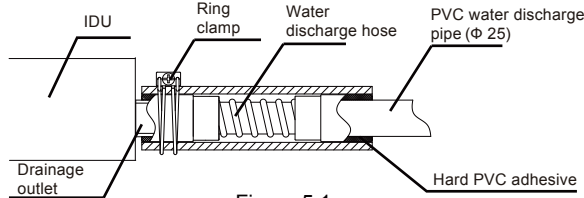

Figure 5.1
3. Use the insulation casing for water discharge piping (accessory) to bundle the water suction and discharge pipes of the indoor unit (especially the indoor portion), and use the tie for the water discharge piping (accessory) to bind them firmly to make sure air does not enter and condense. See Figure 5.1